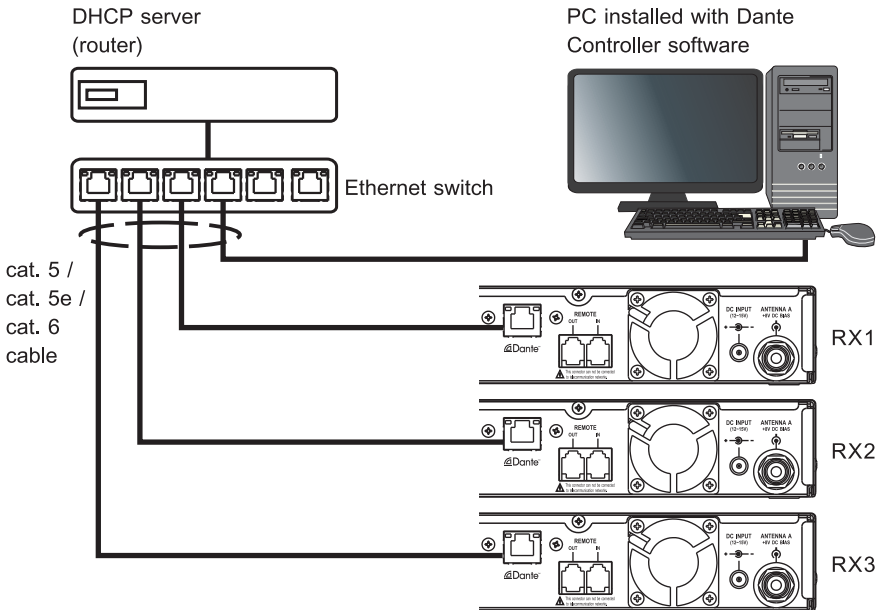

Fig. 29
1. Dante Network. Fig. 29:
- (A) Connect Dante RJ45 port on the device to the Ethernet switch via cat. 5 / 5e, or cat. 6 cables to construct Dante Network.
- (B) The Ethernet switch needs to be connected with a DHCP server (e.g. router) to provide DHCP function.